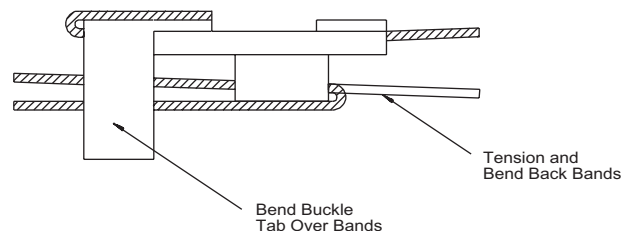

Figure 1: Banding Method
2. Tension the straps according to the instructions for the banding tool. BAND-IT, Banding tool is recommended and may be purchased separately. A BAND-IT Tool Instruction Chart is provided with each pole mount. Figure 1. shows how the ends of the bands are bent around the buckle.